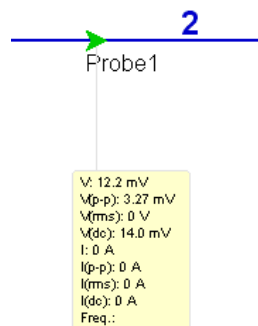

Figure E2-18. Measurement Probe during an interactive simulation
3. Click on the (interactive) **simulate** button or press **F5**. You will notice that during an interactive simulation you will be able to instantaneously access the **voltage, current** and **frequency** information of that node through the measurement probe (as seen in Figure E2-18).